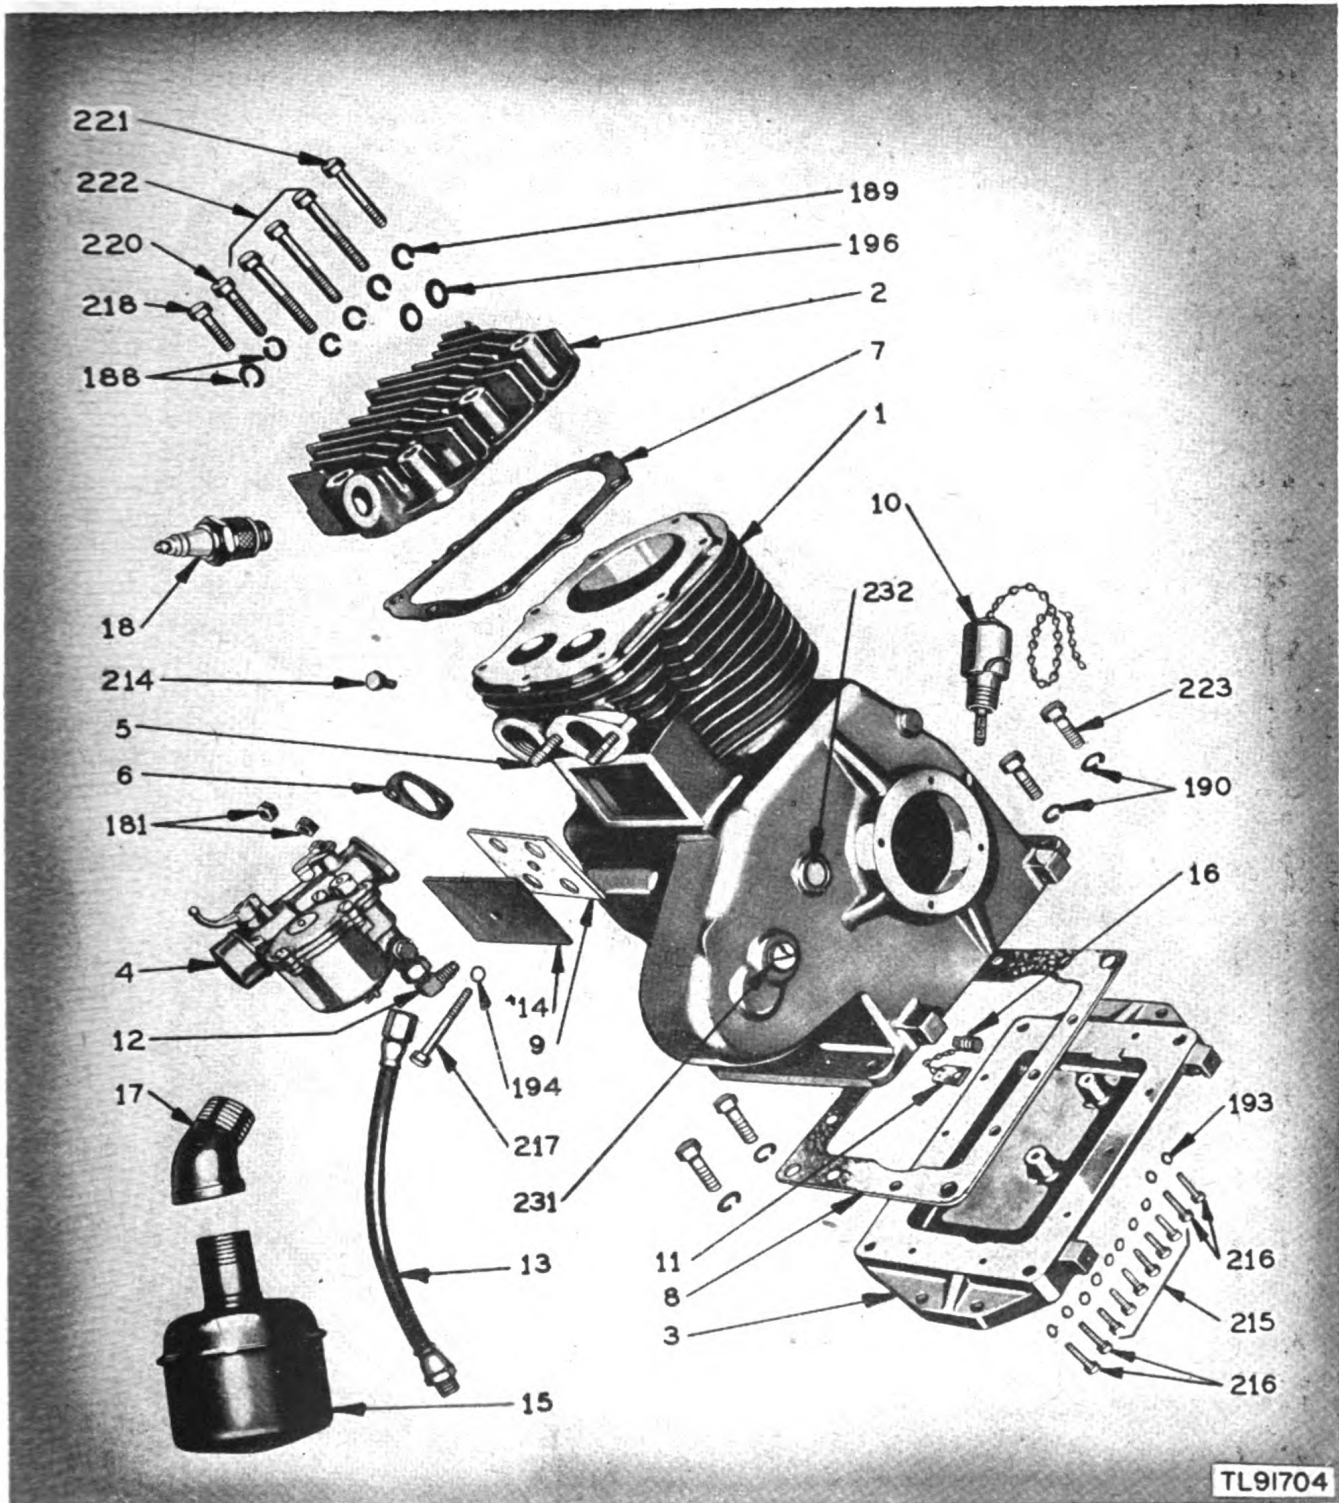
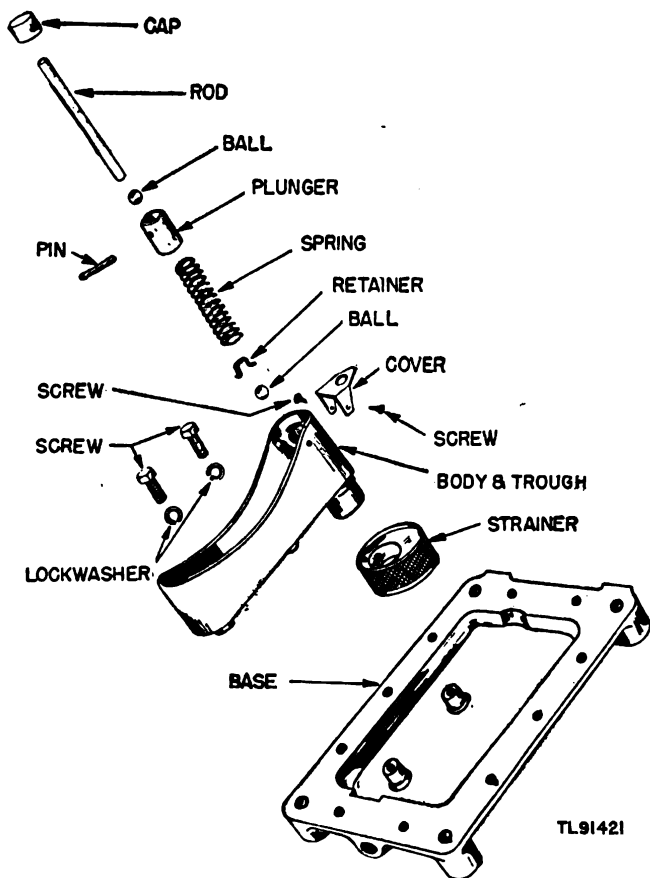

Figure 71. Main engine parts.
Figure 79. Oil pump assembly.
Disassembly of and repair maintenance on the main parts of the engine will be discussed in subsequent paragraphs. Figure 71 shows the engine completely disassembled and indicates its main parts.
b. Remove the oil-bath air cleaner or filter. (See fig. 32.) Remove the carburetor (fig. 71(4)) from the engine.
a. Shut off the fuel supply and disconnect the fuel lines (fig. 71(13)) and governor-control
l. Place the carburetor back on the engine, connect the fuel line (fig. 71(13)) and open the fuel valve. Make sure that the unit is set perfectly level. Check the fuel level in the float chamber. (See fig. 73(124).) The level of the
a. DISASSEMBLY. To remove the cylinder head (fig. 71(2)) for the removal of carbon, valve grinding, or piston ring or piston replace-
ment, shut off the fuel supply and remove the fuel line (fig. 71(13)) and fuel tank. (See figs. 4, 5, and 6.) Observe the following procedure:
(1) Remove the spark plug (fig. 71(18)) and spark-plug shield. (See fig. 38(14).)
(3) Remove the cylinder head cap screws (fig. 71(218), (220), (221), and (222)) and lift off the cylinder head (fig. 71(2)).
(2) Inspect the valves while the cylinder head is removed and grind them if necessary. (See par. 96.) If no further work is to be done, replace the cylinder head. Use a new gasket if possible. Tighten the head fastenings (fig. 71 (2)) a little at a time so that the head is pulled down evenly on all sides.
(1) Remove the cylinder head as instructed. (See par. 95.)
(2) Remove the carburetor (par. 93) and remove the valve-cover plate and gasket (fig. 71 (14) and (9)) from the side of the cylinder.
(fig. 79) necessitates the removal of the engine (fig. 26) from the skid base and disconnecting the generator (fig. 53) from the engine. When the generator has been disconnected from the engine by disengaging the generator end of the coupling hub at the floating center disk assembly (fig. 53), drain the engine crankcase and remove the engine from the skid base by removing the U-bolts. (See figs. 4, 5, and 6.)
(2) Drain the fuel tank and turn the engine on its side. Remove the screws and washers (figs. 71(215), (216), and (193)) that hold the base to the engine and remove the base (fig. 71(3)). The oil trough and oil pump assembly (fig. 79) will come off as a part of the engine base.
(3) Remove the cap (fig. 79 (71)) that holds the oil pump plunger by removing the two screws that hold it in place. Hold a screw driver against the plunger to prevent its popping out as the cap is removed. Lift the plunger and spring (fig. 79) out of the pump cylinder bore. Turn the oil-pump body and trough assembly (fig. 79) over and permit the check ball to drop out. Remove the two cap screws that hold the trough assembly to the base and remove the assembly. (See fig. 79.)
b. INSPECTION AND REPLACEMENT. (1) Check all pump parts for wear and wash them thoroughly in Diesel oil. Replace all parts that appear to be worn.
(2) In reassembling the oil pump, fit the plunger (fig. 79) to the bore with a clearance of between 0.0035 and 0.006 inch. If this clearance is greater than 0.010 inch, replace the plunger and the oil-pump body. Inspect the check-ball seat in the bottom of the pump cylinder. This seat must be perfectly clean and not worn or pitted.
(3) Drop the check-ball (fig. 79) into the cylinder and tap it lightly into its seat with a punch and hammer. Next, drive the retaining pin (fig. 79) into place. Clean up any bur on the plunger that may have been caused by driving the retaining pin into place. Insert the plunger in the cylinder and hold it in place with a screw driver while replacing the retainer cap.
(4) Fill the base with about $\frac{1}{2}$ pint of engine oil (OE) and with a screw driver pump the piston up and down to pump oil into the trough. If no oil is discharged into the trough, the pump and body are worn and must be replaced.